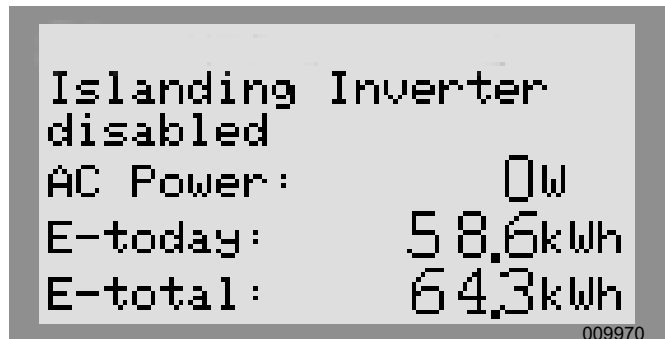

Figure 3-8. Enabling and Disabling Devices (1 of 3)
- See Figure 3-8. Verify the device status reads Disabled.